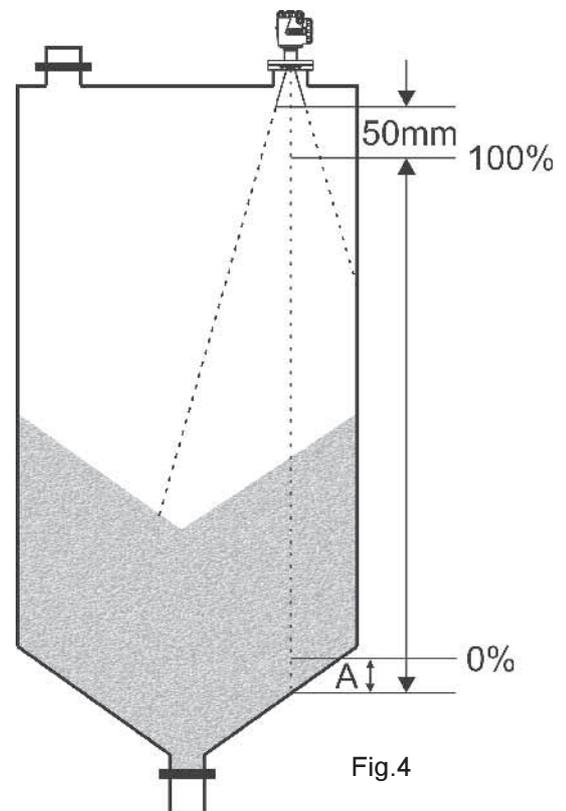

Fig.4
- if the product can form deposits, the measurement could be affected by the contact between the antenna and the deposit itself. In this case it is necessary to maintain a gap not less than 50 mm from the antenna and the 100% setpoint (fig.4)
- in case of products with a low dielectric constant (group I and II tab.4) it is necessary to fix the 0% point at a certain distance (A) from the bottom of the tank (fig.4) non less than 50÷150mm for the RPL53 transmitter, and not less than 100÷300mm for the RPL54 transmitter.